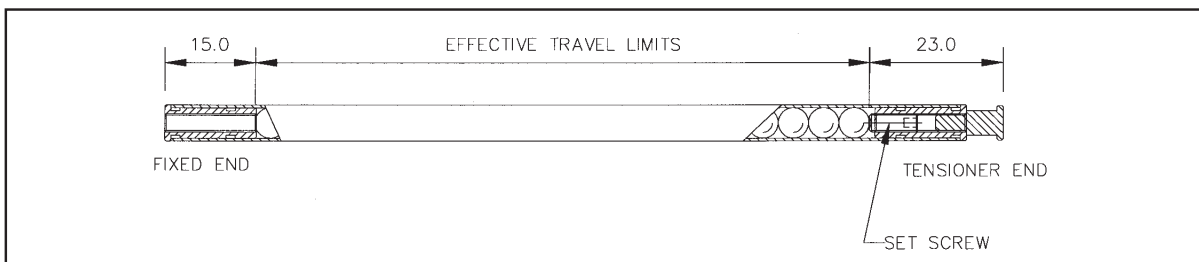

Figure 6.7 - The MHG Scale
- (A) Erroneous readings will occur if the MHG *Digital* Reader Head is allowed to travel beyond Effective Travel Limits. (Refer to Figure 6.7)
- (B) The pre-load on the balls are factory set via the set screw at the tensioner end. Do not tamper with or adjust the set screw as this will alter the calibration and accuracy specification of the scale and void the warranty.
- (C) When mounting scales in the vertical plane the tensioner end should be positioned at the top.